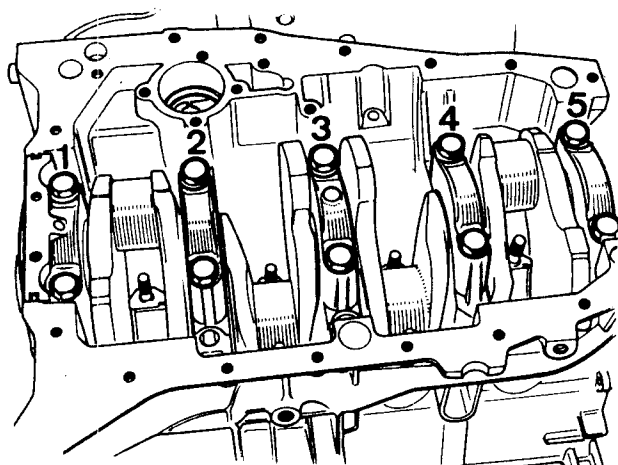

Fig.1.34 Main bearing numbering, caps and crankcase (on crankshaft side for correct location)
- 2 Mark the five main bearing caps in sequence from the front either by dot punching or using quick drying paint, Fig.1.34, (photo). Ensure that the position of the mating marks on both the caps and crankcase will automatically ensure their correct orientation on refitting.